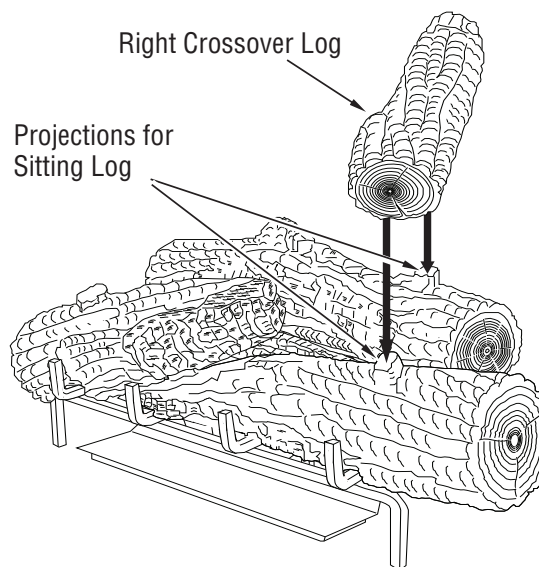

Figure 53 - Installing Right Crossover Log
- Place the right crossover log onto the rear log and the right front log as shown in **Figure 53**. The right crossover log has notches in the bottom that will line up with the projections on the rear log and the right front log.